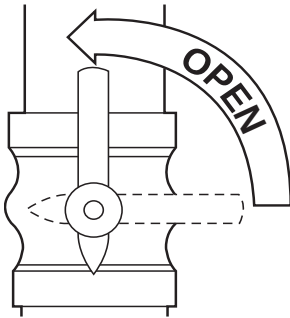

Fig. 15 – Open Valve
9. Open the external manual gas valve (see Fig. 15).